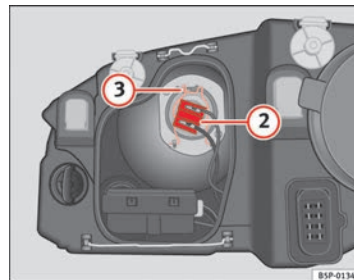

Fig. 166 Dipped beam headlights
- Remove the connector ⇒ page 261, fig. 166 ② from the bulb.
- Unclip the retainer spring ⇒ page 261, fig. 166 ③ pressing inwards to the right.